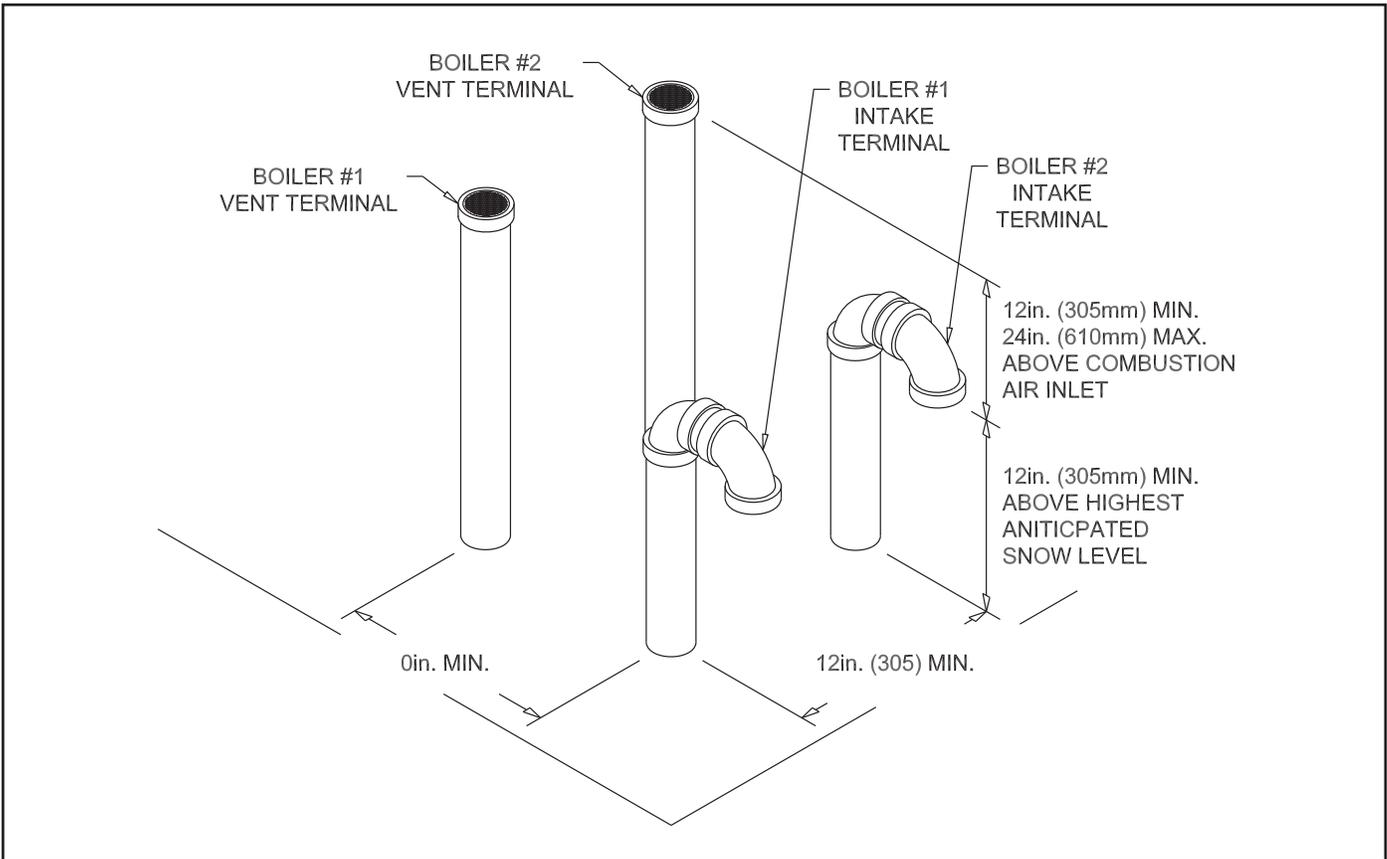

FIGURE 2.5: MULTIPLE BOILER VERTICAL CPVC/PVC DIRECT VENT
- Vertical Fitting Terminals (Figure 2.5) – Maintain at least 12” horizontally (center to center) between the exhaust terminal of one boiler and the intake terminal of another boiler as shown in Figure 2.5.